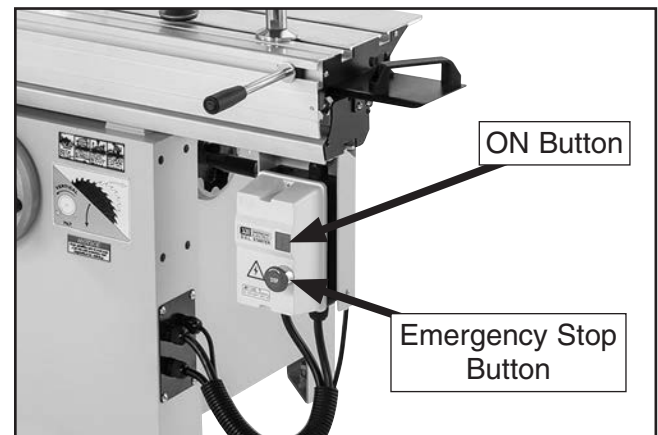

Figure 61. Emergency Stop switch button.
4. Twist Emergency Stop button clockwise until it pops out (see **Figure 61**). This resets switch so the machine can start.
5. Press ON button (see **Figure 61**) to turn machine **ON**. Verify motor starts up and runs smoothly without any unusual problems or noises.